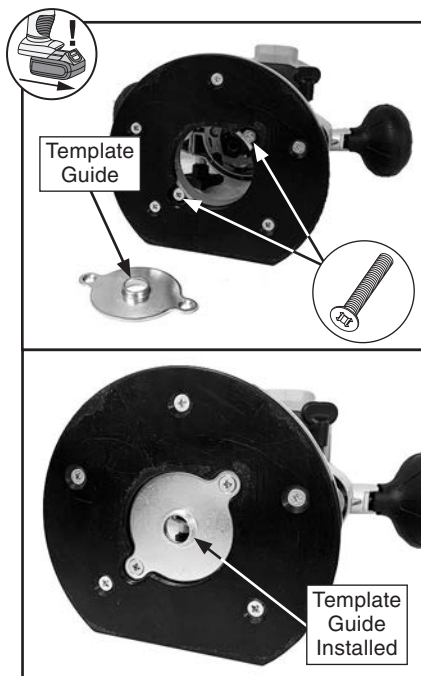

Figure 22. Template guide installation.
2. Remove (2) Phillips head screws on plunge base, then install template guide, and secure as shown in **Figure 22**.